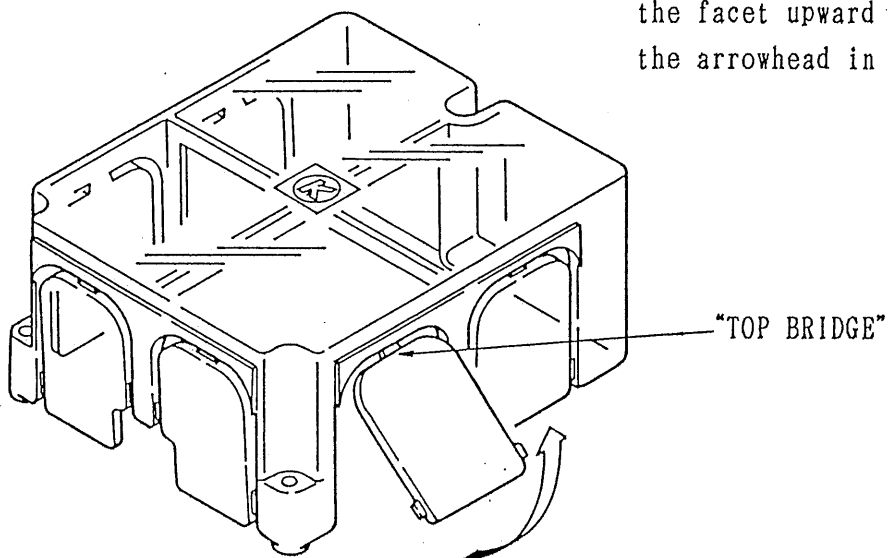

Figure 2-23
2. Break the top bridge by bending the facet upward as shown with the arrowhead in Figure 2-23.